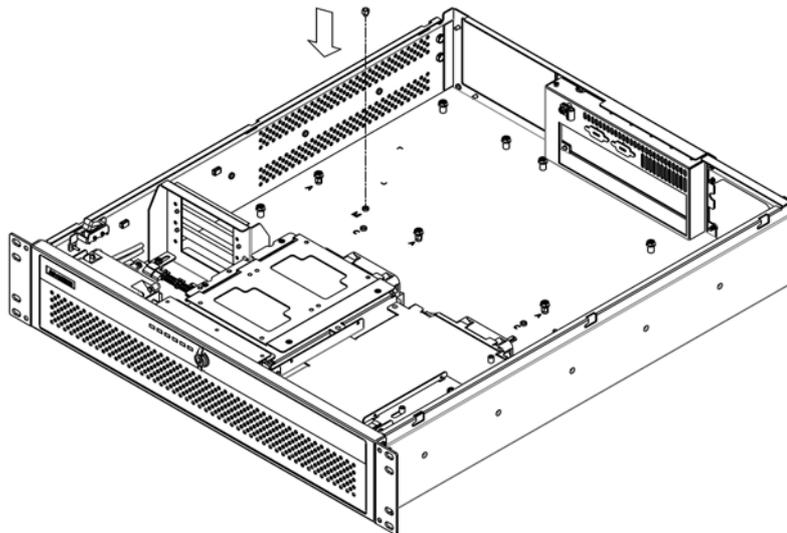

Figure 2.3 Fastening the stub copper/ 固定铜柱 / 固定銅柱
2. A yellow label is located inside of the chassis bottom. (see Figure 2.2) It shows the stub copper location for attaching the specific ATX / MicroATX motherboard. Users can find the stub copper in the accessory box (see Figure 2.3). Lock the stub copper into the correct location and then rotate counterclockwise to fasten it onto the chassis.